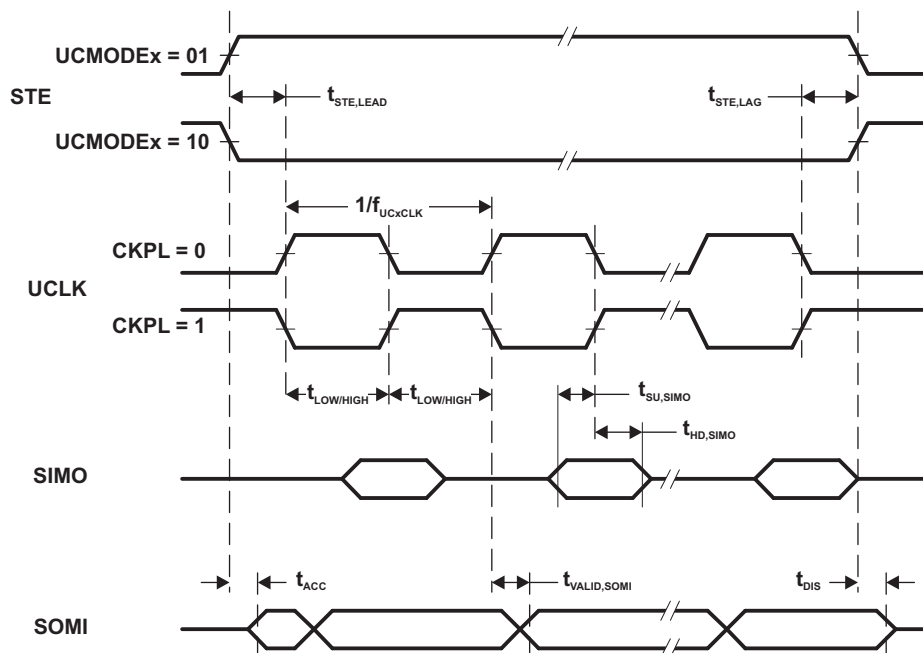
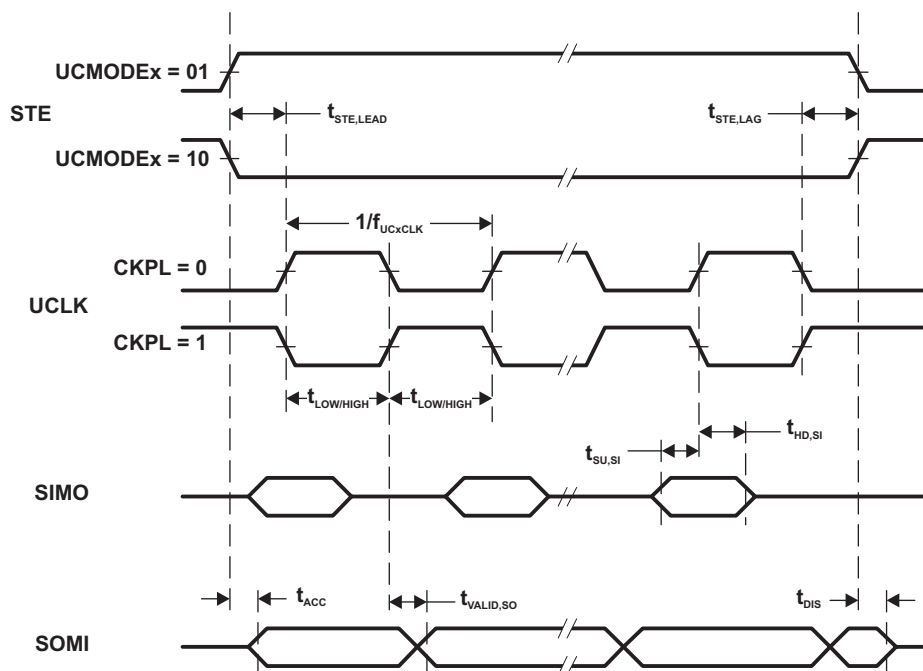

Figure 15. SPI Slave Mode, CKPH = 0
Figure 16. SPI Slave Mode, CKPH = 1
- (1) $f_{UCxCLK} = 1/2t_{LO/HI}$ with $t_{LO/HI} \geq \max(t_{VALID,MO}(\text{Master}) + t_{SU,SI}(\text{eUSCI}), t_{SU,MI}(\text{Master}) + t_{VALID,SO}(\text{eUSCI}))$. For the master's parameters $t_{SU,MI}(\text{Master})$ and $t_{VALID,MO}(\text{Master})$ refer to the SPI parameters of the attached slave.
- (2) Specifies the time to drive the next valid data to the SOMI output after the output changing UCLK clock edge. See the timing diagrams in Figure 15 and Figure 16.
- (3) Specifies how long data on the SOMI output is valid after the output changing UCLK clock edge. See the timing diagrams in Figure 15 and Figure 16.